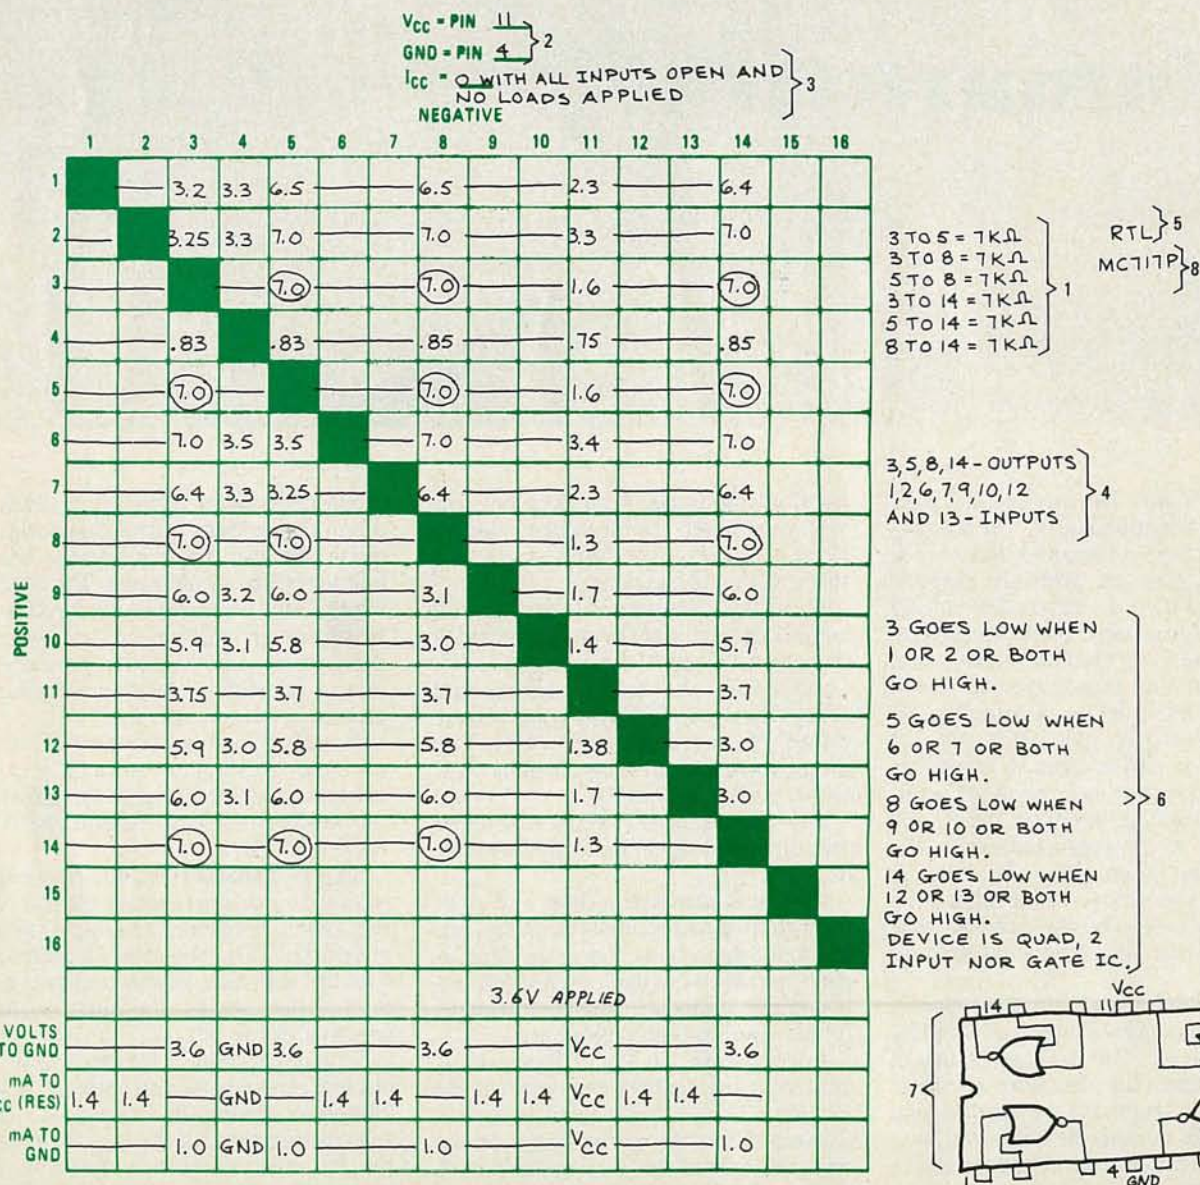

FIG. 2—COMPLETED SIGNATURE CHART for the unknown IC. It turned out to be an quad, 2-input NOR gate.
minal-to-terminal resistance. That is noted to the right of the chart (Fig. 2), along with the other resistance values and identified as step one. The remaining terminal pairs show grossly different resistance measurements in opposite directions, indicating the presence of one or possibly several semiconductor junctions in the path.
Scan across Row 4 for the lowest uncircled reading—in this case it is the 750-ohms reading in Column 11. That tells us that pin 11 is the V_{CC} terminal of the IC. Record those numbers in the place provided at the right of the chart—Step 2, Fig. 2.
A voltage less than 0.2, but greater than zero, usually indicates logic outputs in the low state. None of those appear in Fig. 2.
Now is the time to remove and reapply power to the IC. Do that several times, each time comparing the voltage at each suspected output to its original recorded value. Often a flip-flop will reveal itself by changing the state of one or more of its outputs. A simple gate will never change state in response to that little trick. The IC in Fig. 2 did not change state so I assumed it was not a flip-flop.
Voltages from about 1.8 down to 0.8 usually indicate TTL or DTL inputs. The fact that there are no such voltages in the "volts-to-ground" row of Fig. 2 was certainly a surprise to me, but it did lead to a pretty solid conclusion: If the IC is not defective, then it is not TTL or DTL.
Input currents for RTL, DTL and TTL fall between 0.8 mA and 2.0 mA. In Fig. 2 all the probable inputs draw 1.4 mA referenced to V_{CC} and nothing referenced to ground. That verifies that they are inputs and shows they are active (draw current) when the input is pulled high. RTL is active-high. DTL and TTL are active-low. Since their appear to be twice as many inputs as outputs, the chart suggests that our IC is a quad gate of some sort. It is reasonable to conclude that pins 1, 2, 6, 7, 9, 10, 12 and 13 are inputs.
Step 5: The symmetrical pattern of resistances in the signature and the strong evidence for four independent outputs with logic-level voltages pretty much rules out any linear IC. Resistive pull-ups could be DTL, but DTL inputs are active-low and our IC is active-high. After reviewing all the evidence I felt there was absolutely no doubt that this device was RTL. That conclusion was recorded in Fig. 2.
The relationships between the inputs and outputs and the conclusion as to the type of device I was dealing with are listed in Fig. 2 as step 6.